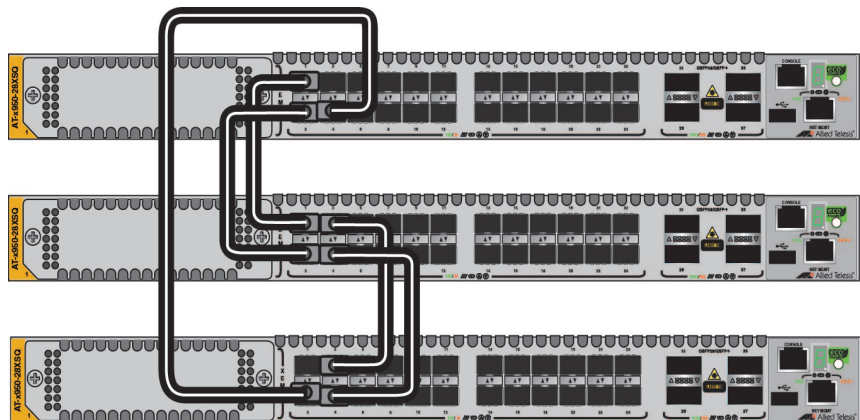

Figure 39. Unsupported Trunk with Different Numbers of Links Between Switches
- ❑ In stacks of three or more switches, the number of links in the trunk has to be the same on all switches. The trunk in Figure 39 is unsupported because the middle switch is connected to the top and bottom switches with two links each, while the top and bottom switches are connected with only one link.